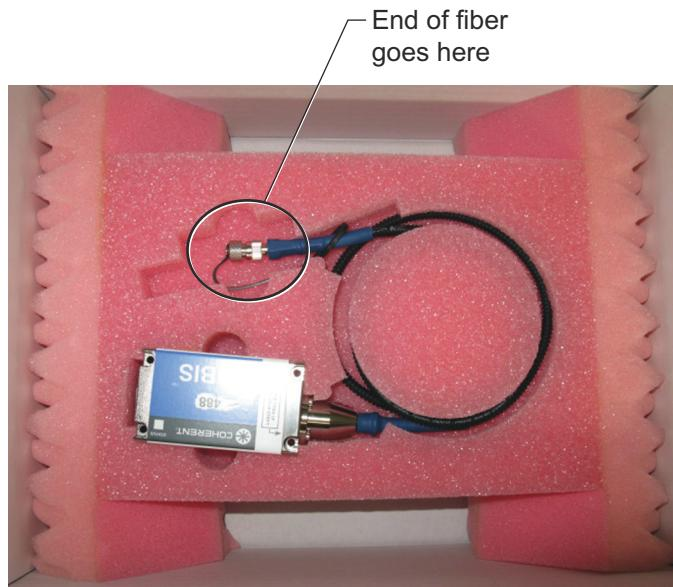

Figure VIII-7. Fiber Positioned in Packaging Foam
4. Carefully position the laser and wind the fiber as shown in Figure VIII-7. Make sure the fiber end is set in the designated space in the packaging foam.